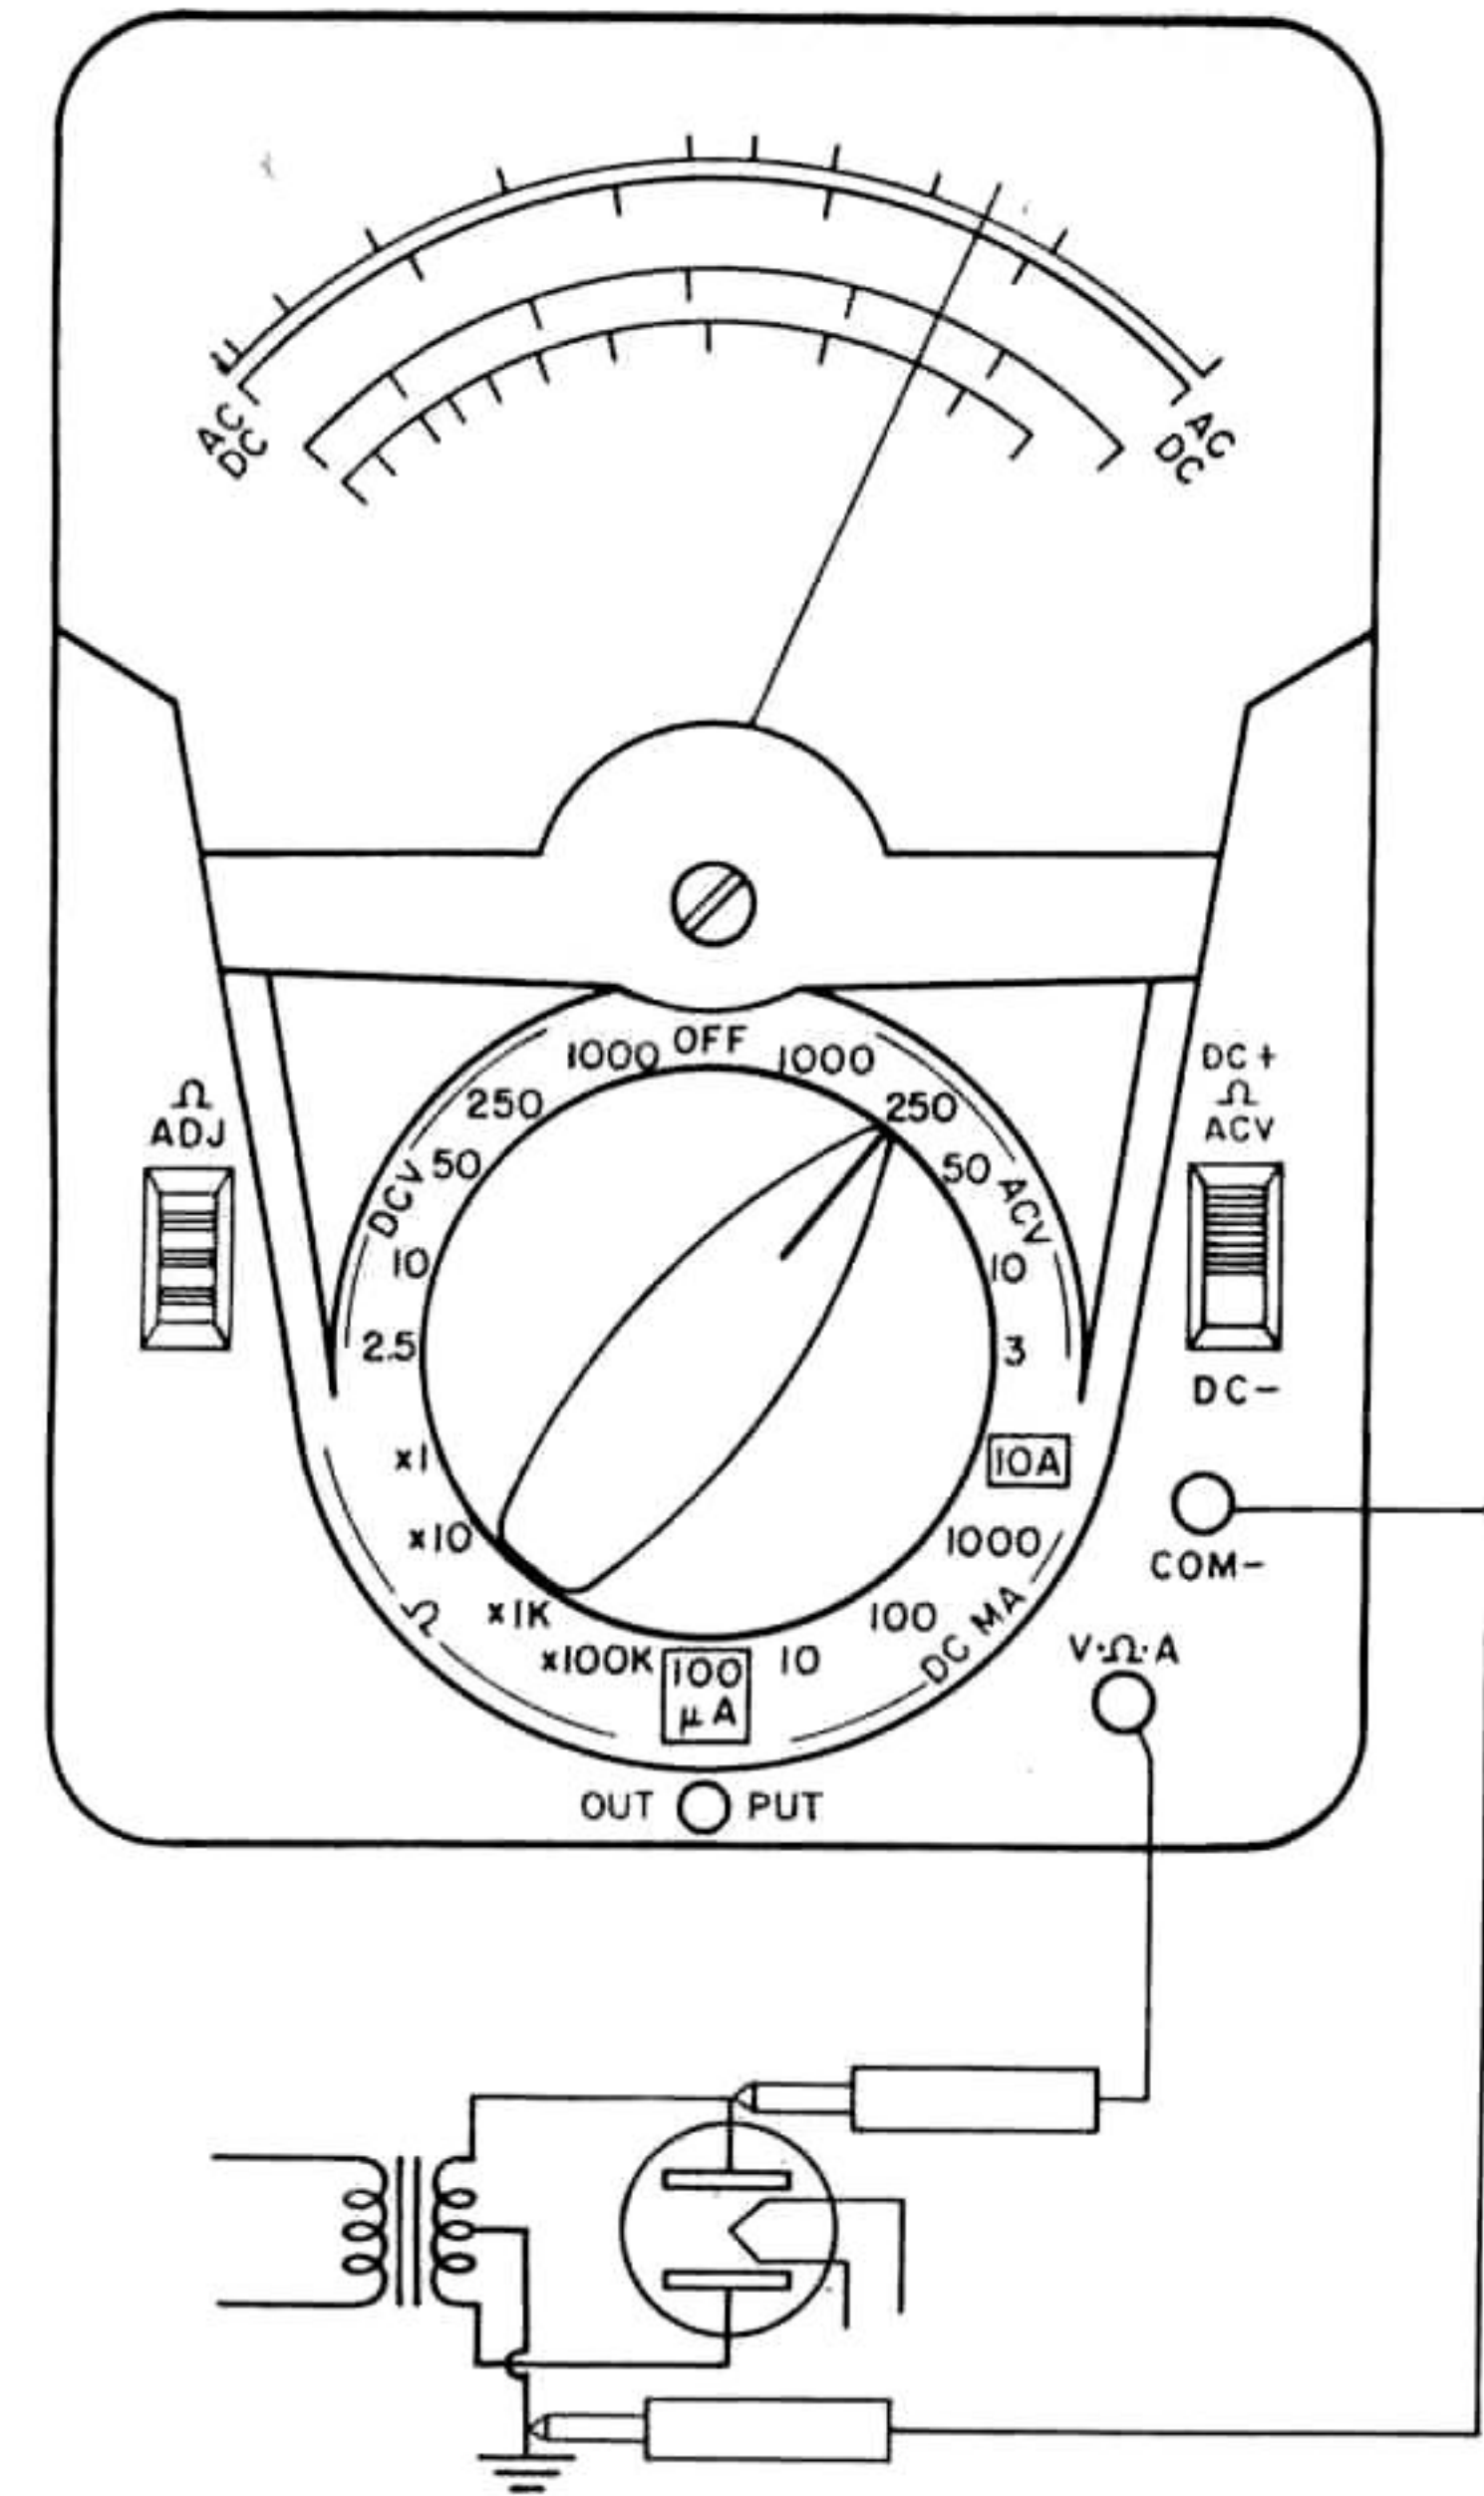

Fig. 2. Measuring AC Volts
3. Connect the test probes across the voltage to be measured as shown in Fig. 2.